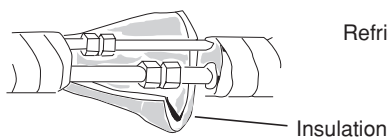
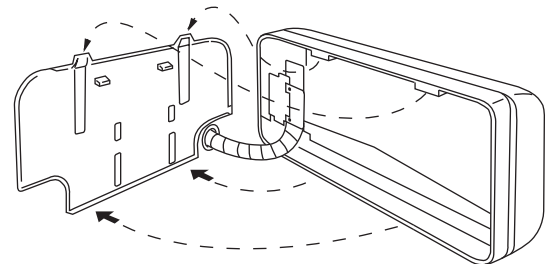

Fig. 37a
Fig. 36
- (2) Push the wiring, refrigerant tubing, and drain hose through the hole in the wall. Adjust the indoor unit so it is securely seated on the rear panel. (Fig. 36)
- (3) Carefully bend the tubing (if necessary) to run along the wall in the direction of the outdoor unit and then tape as far as the fittings. (See Caution on page 19 in the outdoor unit installation manual.) The drain hose should come straight down the wall to a point where water runoff won't stain the wall.
- (4) Connect the refrigerant tubing to the outdoor unit. (After performing a leak test on the connecting part, insulate it with the tubing insulation. (Fig. 37a)) Also, refer to Section 3-5. Tubing connections in the outdoor unit installation manual.